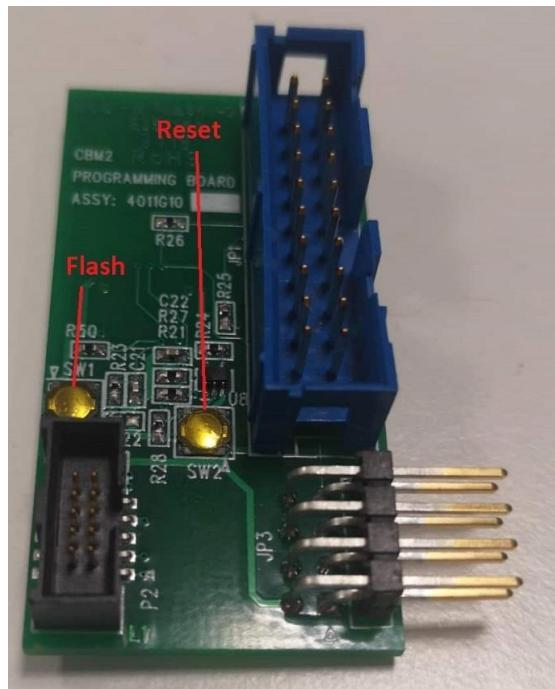

Figure 37: Programming Board Flash and Reset Buttons
- Note, the mote must be powered while these steps are taking place. The power has been removed in Fig.37 to make the connections and buttons easier to see.
- Now the two golden buttons on the programming board as shown in Fig.37, FLASH (SW1) and RESET (SW2), must be pressed in a specific fashion to enter “Flash” mode.